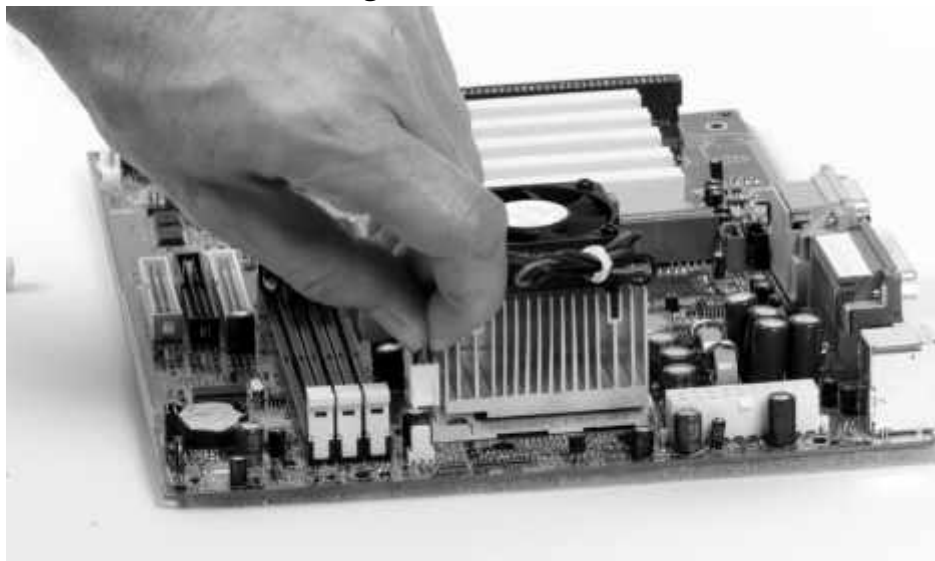

Figure 20. Plugging the Fan Power Lead into the Motherboard Connector
20. After installing the heatsink, the next step is to connect the fan. Figure 20 shows the wire from the heatsink fan being plugged into the motherboard connector marked "CPU FAN". This connector is keyed so the power lead can only be installed one way. If a connector marked "CPU FAN" is not apparent on the board, read the motherboard manual to learn where the fan is to be connected.
In Figure 20, also notice how the excess wires are neatly bundled and out of the way of the airflow required by the fan. If the flow of fresh air is blocked, the fan will not function properly.